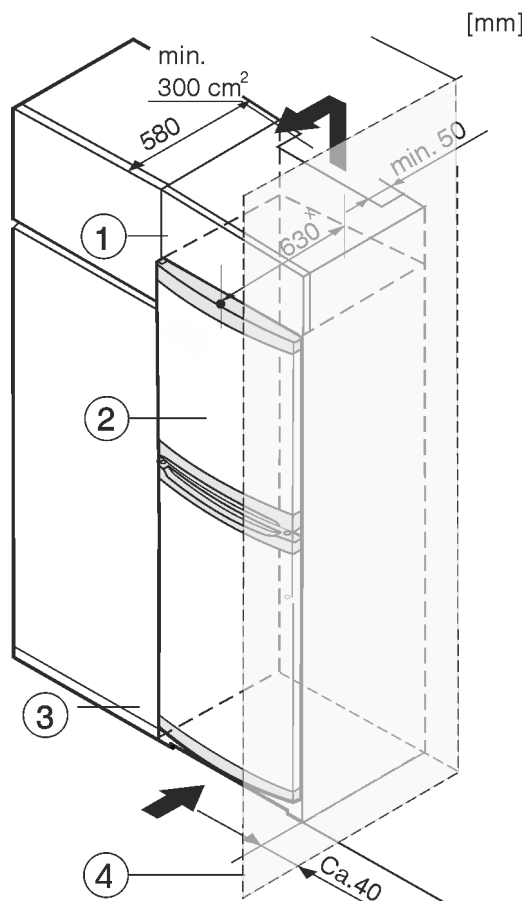

Fig. 8
The appliance can be built into kitchen units. A top cupboard *Fig. 8 (2)* can be added above the appliance in order to bring the appliance *Fig. 8 (1)* up to the height of the fitted kitchen units.
If you are integrating the appliance into a kitchen unit (max. depth 580 mm) you can install it right next to the kitchen cabinet *Fig. 8 (3)*. The appliance measures 34 mm x at the side and 50 mm x at the centre in relation to the front of the kitchen cabinet.
If you are installing the appliance with the hinges next to a wall *Fig. 8 (4)*, the distance between the appliance and the wall must be at least 40 mm. This is how far the handle protrudes when the door is open.